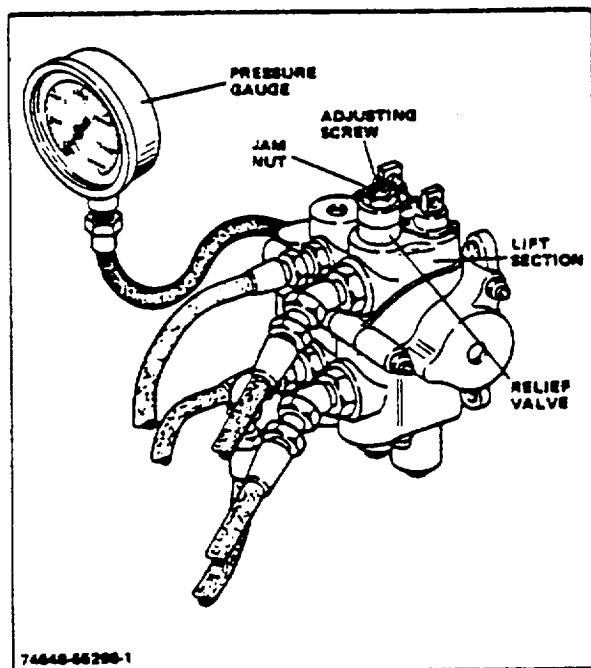

Figure 2-2. Checking Lift Section Pressure
2. Checking Lift Section Pressure (Fig 2-2)